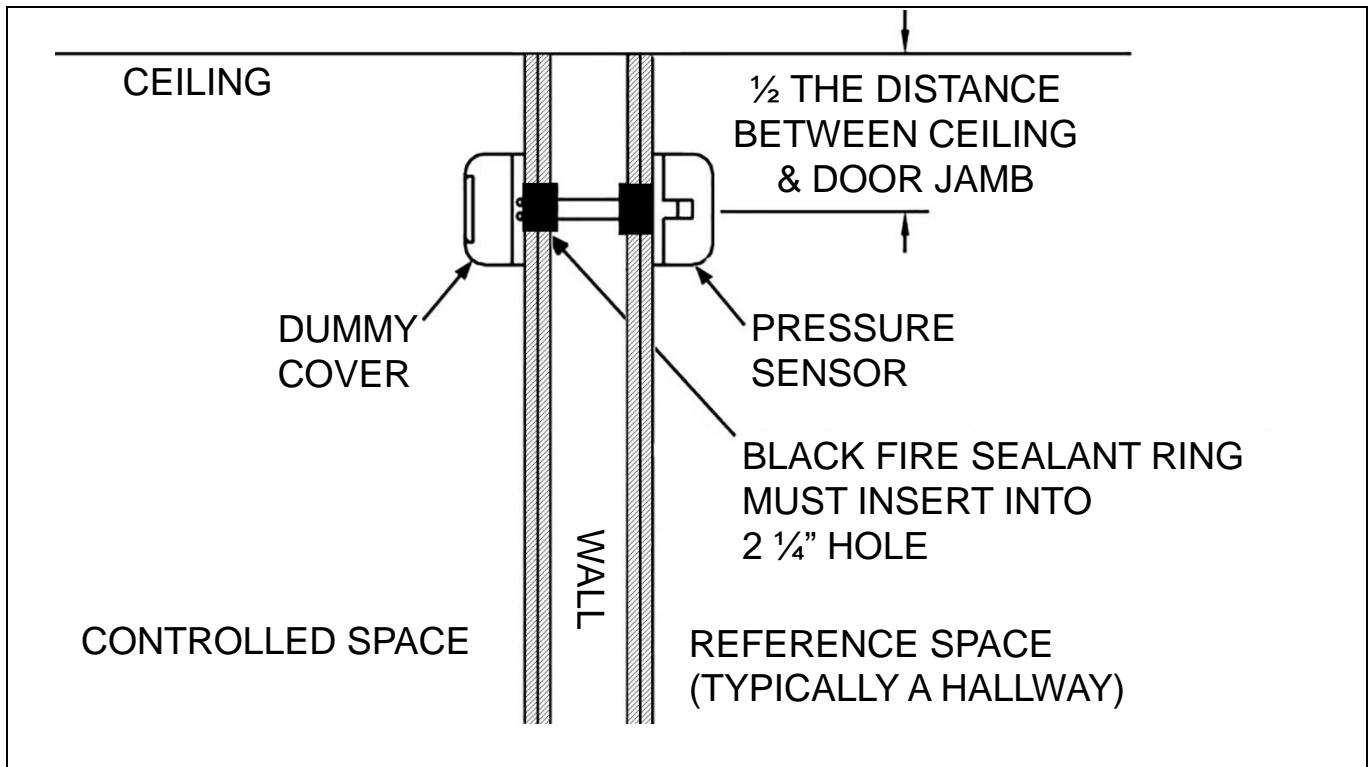

**Figure 2: Pressure Sensor Orientation and Mounting Template**
- The pressure sensor must be orientated on the wall as shown in Figure 2. Looking at the mounted sensor, sensor hole is on the left ( $2\frac{1}{4}$ ") and wire hole is on the right.
- Drill a  $\frac{7}{8}$ " hole on the side of the wall that the pressure sensor will be mounted. This hole is for the six-conductor sensor cable. Refer to Figure 2 for a hole mounting pattern.
- Slide sensor cover to right and remove screw that holds the sensor base to the pressure sensor (Figure 2). Remove pressure sensor and store in a safe place.